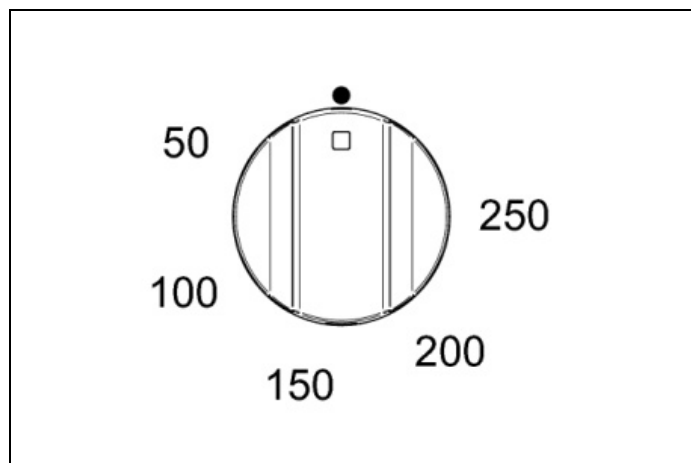
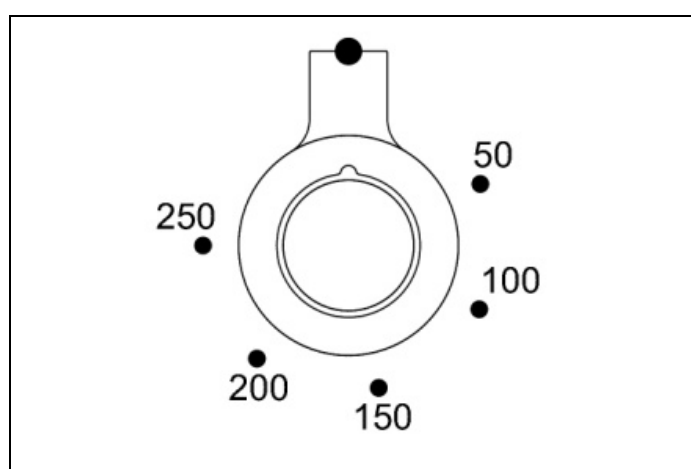
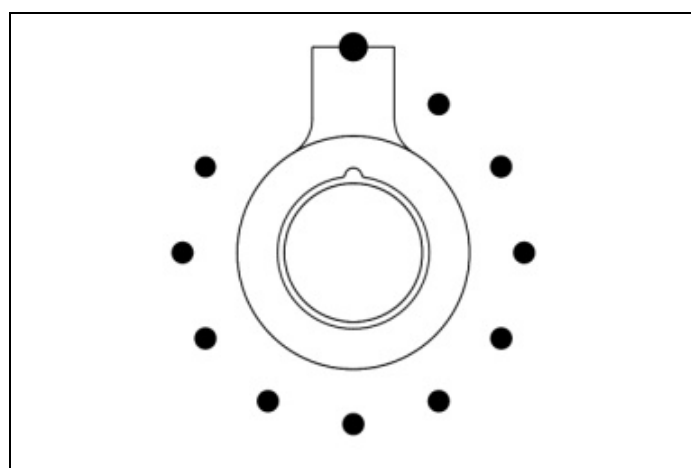

Fig. 26
Fig. 27
Fig. 28
- 2) Turn the temperature knob (Fig. 26 - Fig. 27 and Fig. 28 for the PRO T model only) clockwise to select the temperature required. The orange light turns off once the oven has heated to the chosen temperature and is ready for use. It is normal for this light to switch on and off during cooking, as the heating elements operate to keep the temperature constant. (oven operations is indicated by the programmer display for the PRO T version only).